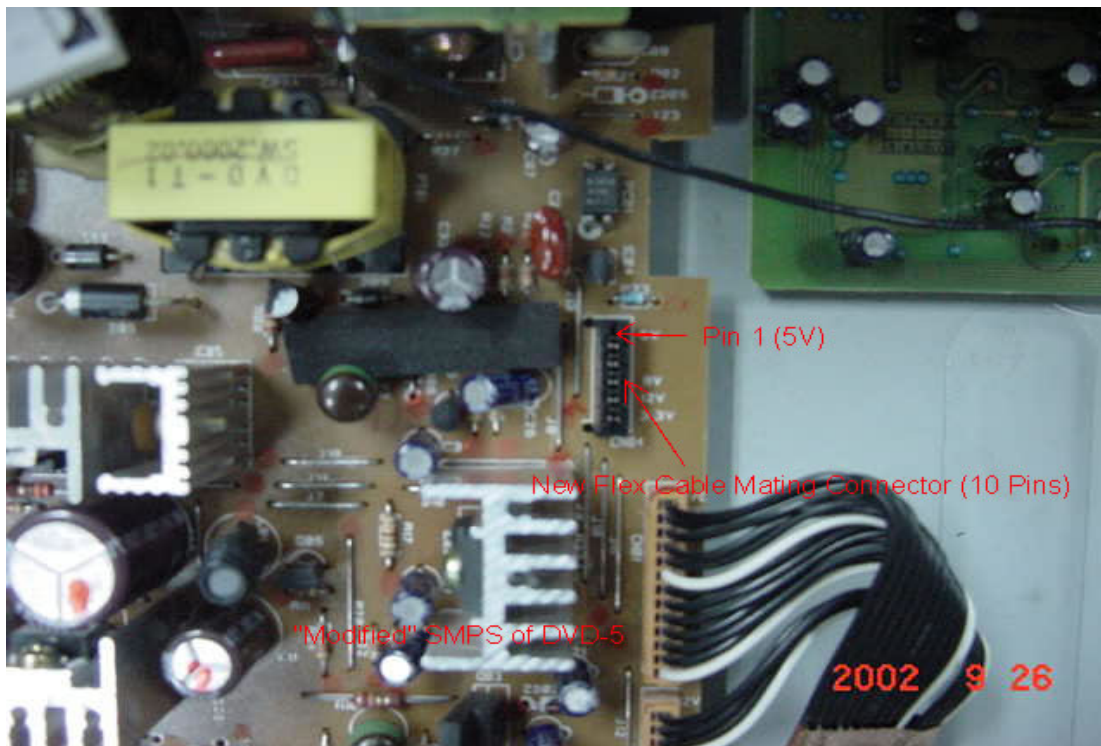

Figure 4. "Modified" DVD5 Power Supply
a) Early Version: Molex Connector should be replaced with 10-Pin FCC connector, part# 55284430 on POWER SUPPLY module. See Figure 4. After replacing original molex connector, connect the loader and power supply with 10 wire - FCC CABLE, part# 55174870. Connect Pin 1 → Pin1 and Pin 10 → Pin 10. Refer to Figure 4 and Figure 6.